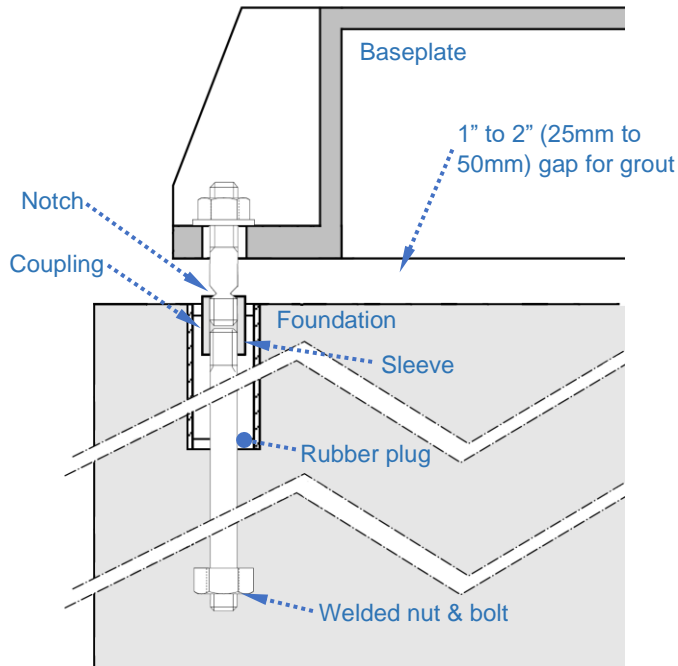

Figure 3a: Sleeve type bolt (embedded)
A flat, substantial concrete foundation is necessary in order to prevent strain and distortion when you tighten the foundation bolts. A template should be made to position and hold the foundation bolts in place while pouring the concrete. Location and sizes of bolt holes are shown on the certified outline drawing supplied to the purchaser. Each bolt is installed in a pipe sleeve. The pipe sleeve allows for minor adjustments in bolt spacing after foundation is in place (Fig. 3a and 3b).
- A washer is placed between the bolt head and pipe sleeve with a lug welded to the bolt head (Figure 3a).